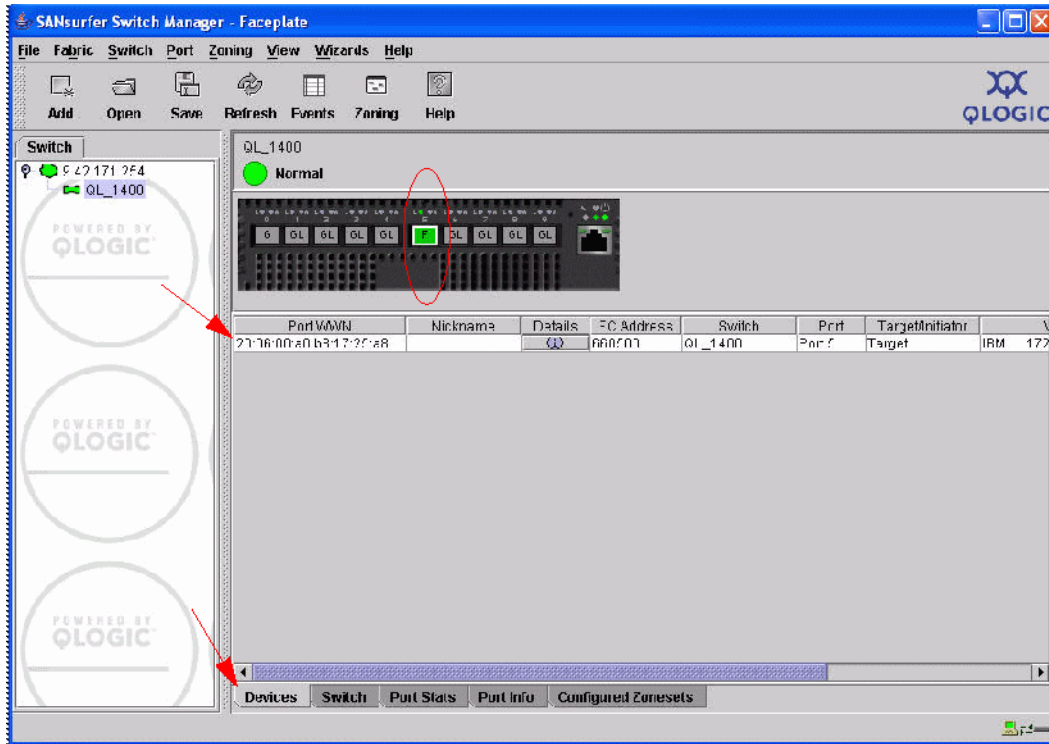

Figure 7-42 PortWNN window
15. Verify that a successful login occurs by checking for device registration in the nameserver. See if the port login indicator in the Faceplate image is green. Select the port and, in the Devices tab, verify the PortWWN of the device appears. (Figure 7-42).